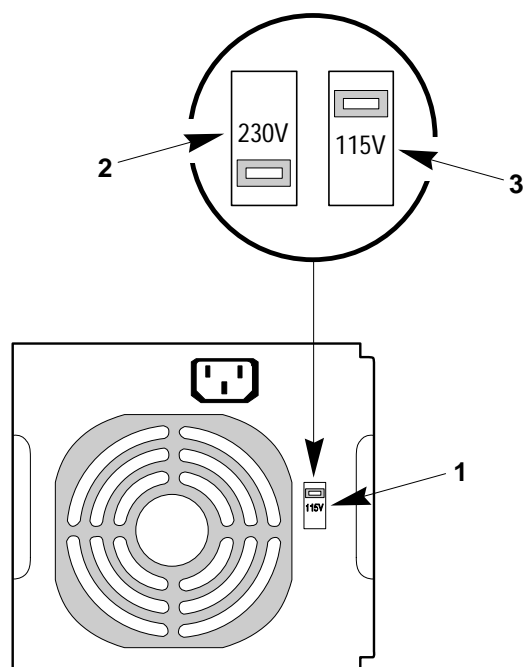

Figure 2-1. Line Voltage Selector Switch
2. Slide the selector switch toward the top of the server to select **115V** or toward the bottom of the server to select **230V**. See Figure 2-1.